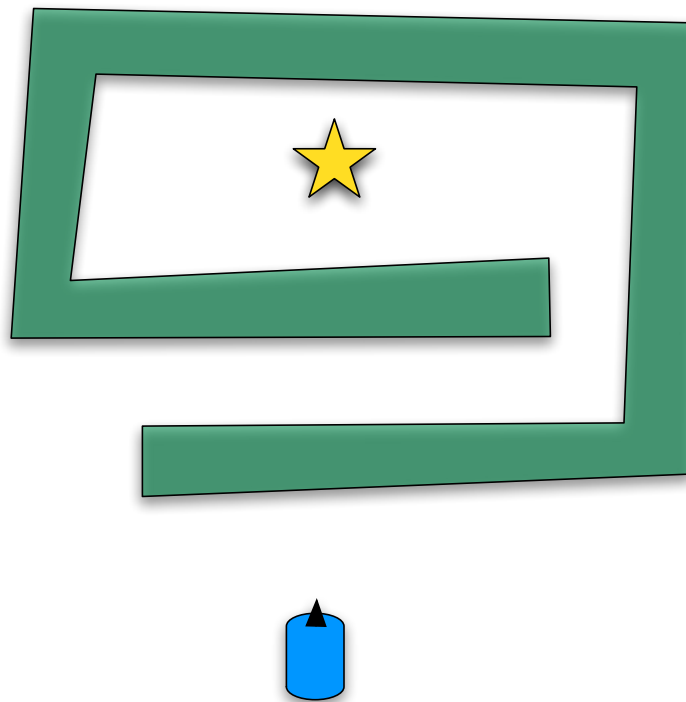

Figure 3: What would Bug2 do in this domain without the *closer to goal* test?
- If we hadn't added the *closer to the goal* requirement in the Bug 2 algorithm, what would it have done on the environment in figure 3? Try it with the robot turning to the right when it hits the obstacle, and with it turning left.